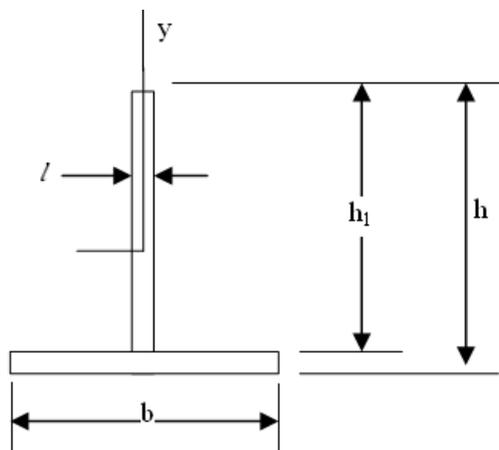

**Figure 7b**
7.a. State the assumption in theory of simple bending and derive the flexure formula. (8)
b. A beam having a cross section in the form of channel (see figure 7b) is subjected to a bending moment acting about the axis. calculate the thickness of the channel in order that the bending stresses at the top and bottom of the beam will be in the ratio 7:3, respectively. (8)